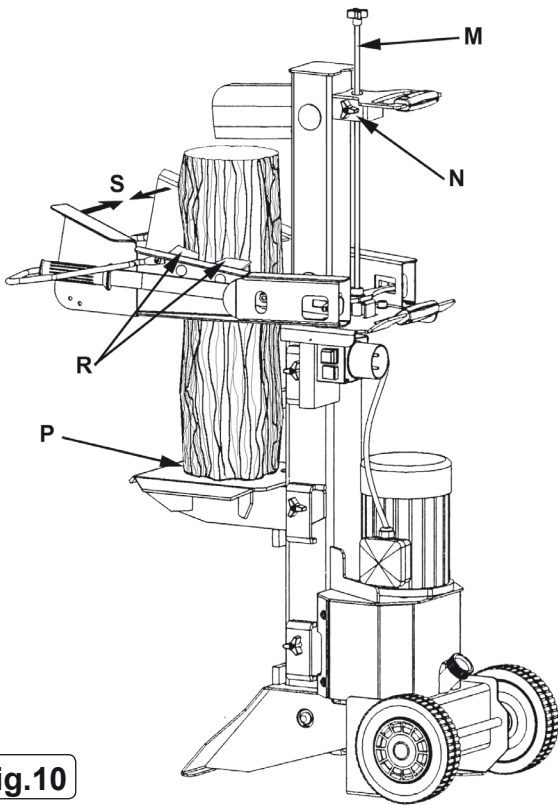

fig.10
- 5.4.5 When both control levers are held down the splitting wedge will move down to split the log and then return to the position set when both levers are released. See also fig.10.
- 5.4.7 Place log onto the support table ensuring that it is vertical and sitting flat on the table as shown above at (P) in fig.10. It is essential that the wedge and support table will contact the log square on. **Never attempt to split a log if it is sitting at an angle.**
- 5.4.8 Take hold of the control handles and move the guard assemblies inwards (see 'S' in fig.10 above) until the serrated log clamps (R) make contact with the log. Do not press the control handles down until the log is firmly gripped as shown below in fig.11.